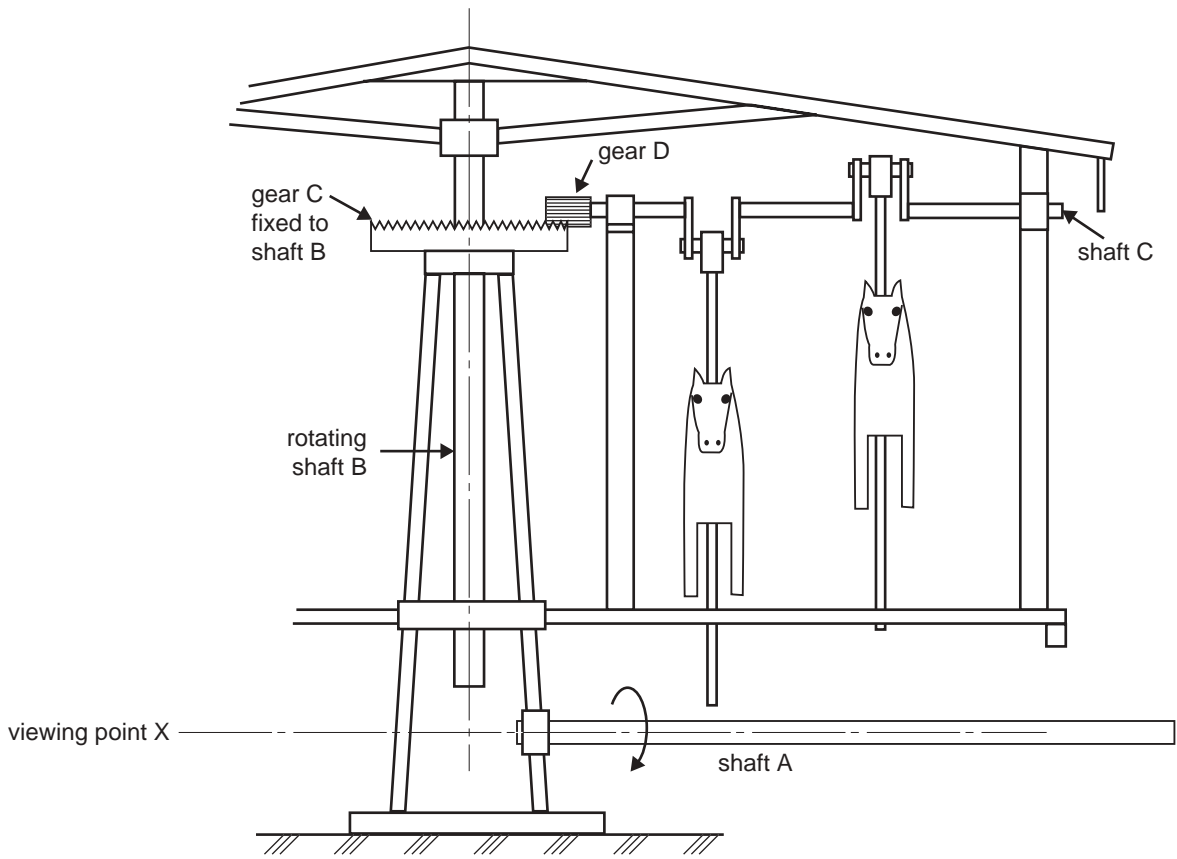

Figure 4
- f. If shaft A in Figure 4 rotates clockwise from the viewing point X, in which direction will shaft C rotate?